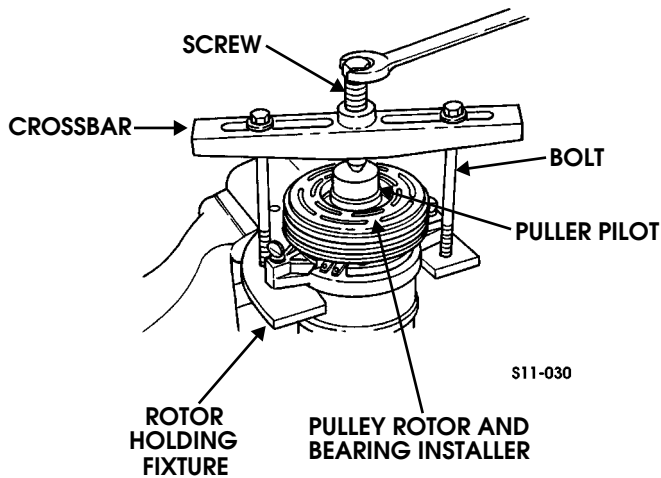

Figure 11-59: Pulley Rotor and Bearing
5. With the compressor mounted to the holding fixture, position the rotor and bearing assembly on the front head (Figure 11-59).